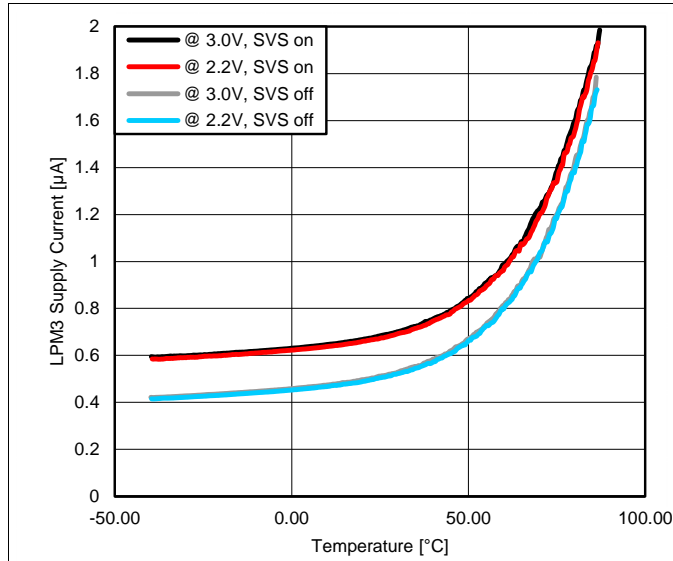

Figure 5-2. LPM3,XT3.7 Supply Current vs Temperature
| $I_{LPM3,XT3.7}$ Low-power mode 3, 3.7-pF crystal, excludes SVS ^{(2) (5) (8)} (also refer to Figure 5-2) | 2.2 V | 0.4 | | 0.5 | | 0.8 | | 1.7 | | μA |